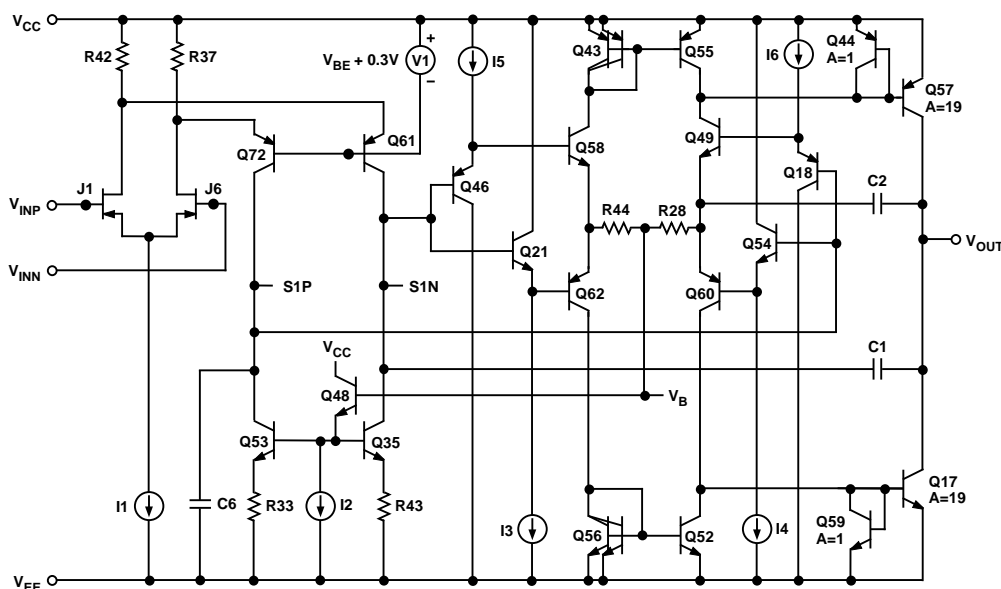

Figure 35. Simplified Schematic
This AD823 is fabricated on Analog Devices' proprietary complementary bipolar (CB) process that enables the construction of pnp and npn transistors with similar f_T s in the 600 MHz to 800 MHz region. In addition, the process also features N-channel JFETs, which are used in the input stage of the AD823. These process features allow the construction of high frequency, low distortion op amps with picoampere input currents. This design uses a differential-output input stage to maximize bandwidth and headroom (see Figure 35). The smaller signal swings required on the S1P, S1N outputs reduce the effect of nonlinear currents due to junction capacitances and improve the distortion performance. With this design harmonic distortion of better than -91 dB @ 20 kHz into $600\ \Omega$ with $V_{OUT} = 4\text{ V p-p}$ on a single 5 volt supply is achieved. The complementary common-emitter design of the output stage provides excellent load drive without the need for emitter followers, thereby improving the output range of the device considerably with respect to conventional op amps. The AD823 can drive 20 mA with the outputs within 0.6 V of the supply rails. The AD823 also offers outstanding precision for a high speed op amp. Input offset voltages